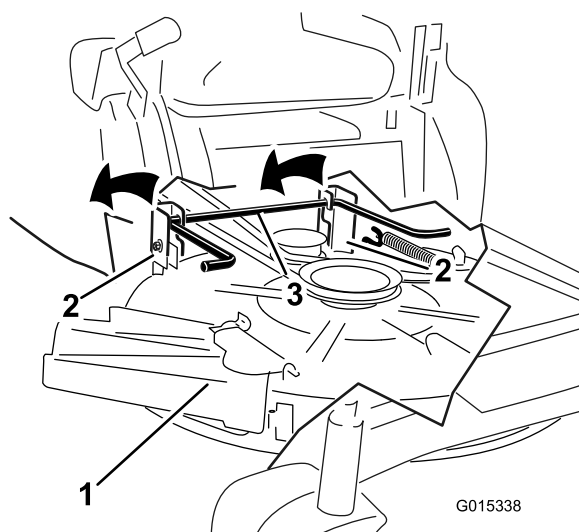

Figure 64
6. Lift the mower deck and hanger brackets clear of the rear lift rod, and lower the mower carefully to the ground (Figure 64).
5. Lift the rear of the mower deck and guide the hanger brackets over the rear lift rod (Figure 64).